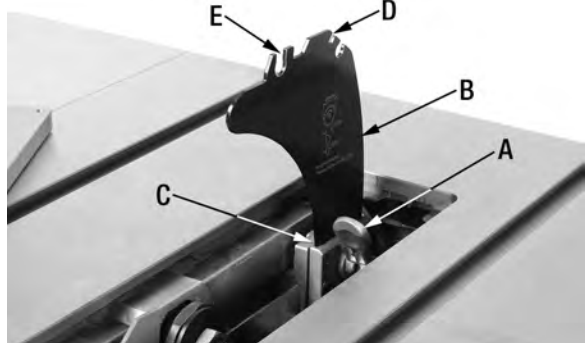
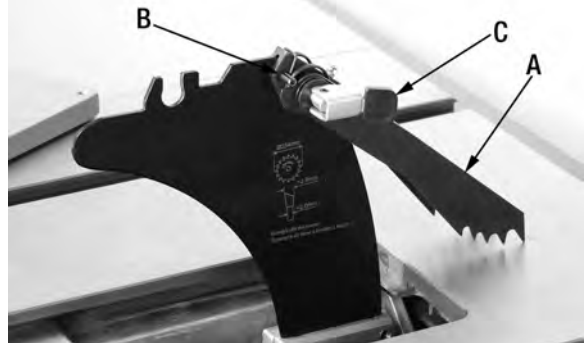
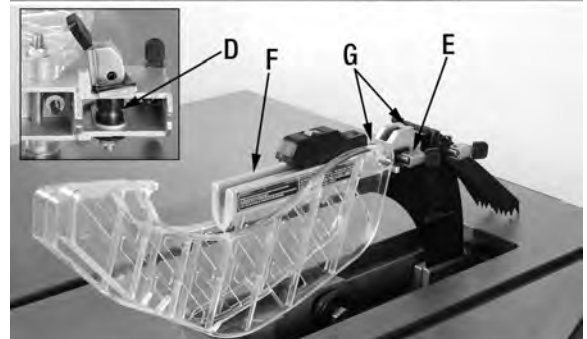

FIGURE 17
FIGURE 18
FIGURE 19
- 1) From the inside of the table opening, lift the riving knife lock lever (A) Fig.17.
- 2) Insert the riving knife (B) Fig.17 into the slot of the locking blocks (C). Make sure riving knife goes all the way down into the slot. To secure the riving knife, lower riving knife lock lever (A).
- 1) The anti-kickback fingers assembly (A) Fig.18 needs to be installed to the riving knife.
- 2) Align the spring pin (B) Fig.18 with riving knife notch (D) Fig.17 and the bolt with the riving knife notch (E) Fig.17.
- 3) Completely lower the assembly down onto the notches, then fold over the latch (C) Fig.18 to secure the anti-kickback fingers assembly.
- 1) The blade guard assembly (A) Fig.19 needs to be installed to the riving knife. But first, the two AA batteries need to be installed to operate the laser guide.
- 2) Remove both small self-tapping screws (B) Fig.19, then remove the battery cover (C). Install batteries in the correct orientation, and reinstall battery cover.
- 3) Align the bushings (D) Fig.19 of the blade guard with the notch (E) Fig. 17 of the riving knife. The bushings have a beveled edge and must be located in the centre of the notch to lock properly.
- 4) Lower the blade guard assembly down onto the notch, then fold over the latch (E) Fig.19 to secure the blade guard assembly.
- 5) The blade guard body (F) Fig.19 should be set parallel to the table, if an adjustment is needed, adjust set screws (G) as necessary.